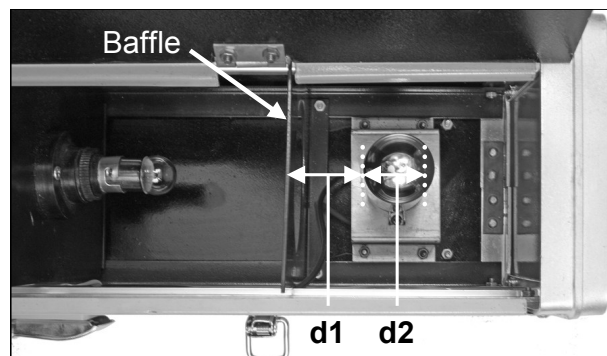

Figure 9
- Open the light tight box. There is a fixed baffle in front of the phototube to eliminate unwanted reflections from the inside walls of the light tight box (see *Figure 9*). Move the slide out until the lamp is well clear of the baffle.